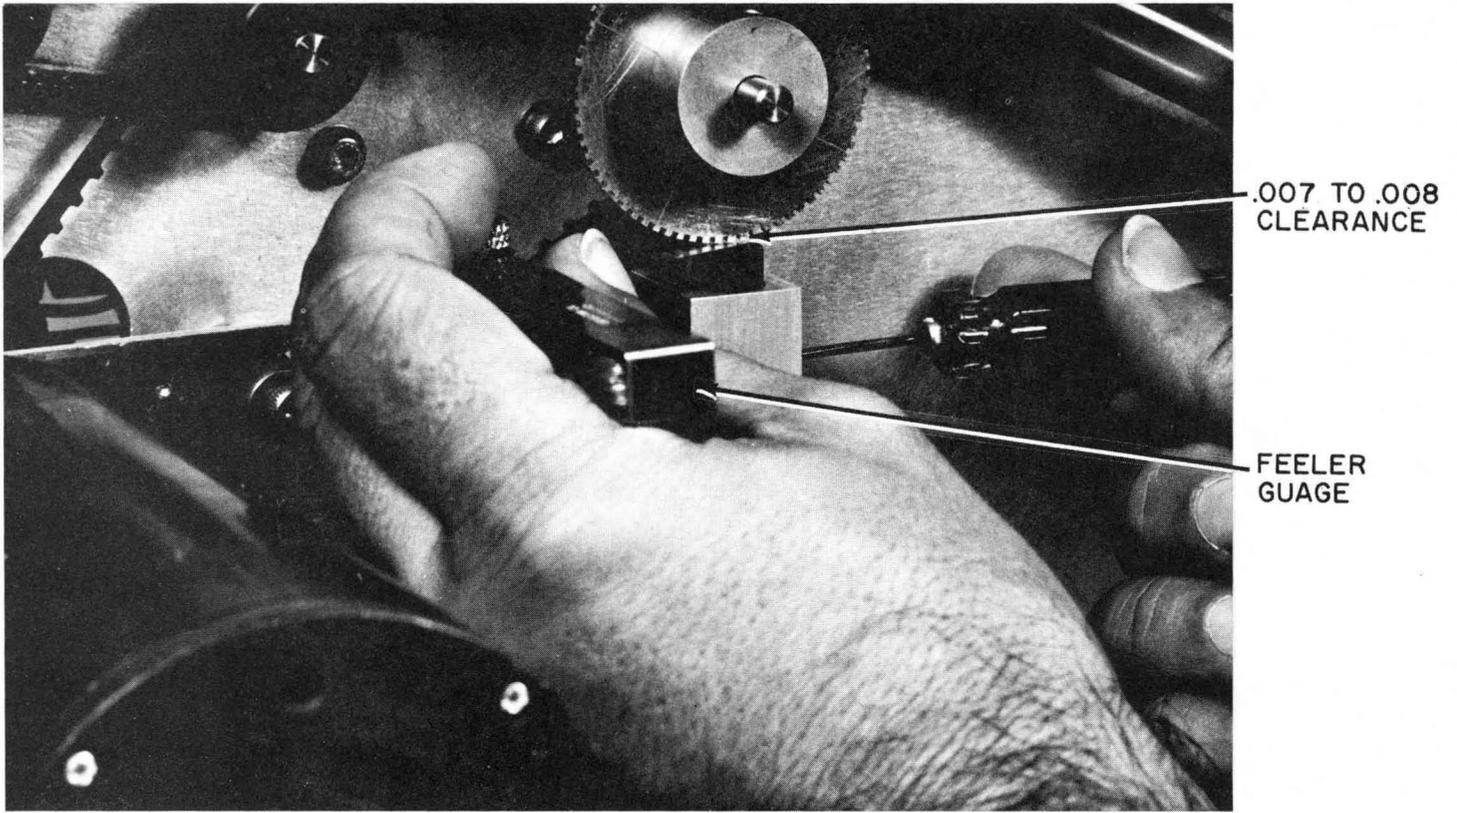

Figure 31. Timing Disc Air-gap Adjustment
between timing disk teeth and magnetic pickup tip. If out of clearance, perform step 8 of Replacement and Adjustment of Magnetic Pickup, figure 31.
8. Using a feeler gauge, adjust spacing between timing disk teeth and tip of pickup unit for .007 to .008, figure 31.